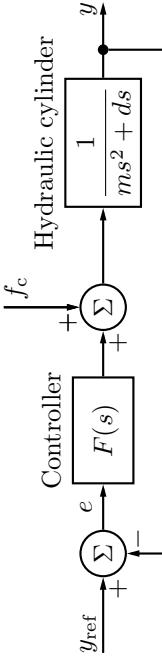

Figure 3.4a
3.4 Figure 3.4a shows the block diagram for a hydraulic servo system in an automatic lathe (Swedish: *svart*). The output signal $y(t)$ represents the position of the lathe tool (Swedish: *svarrstäl*), $y_{ref}(t)$ is the desired position of the lathe tool, m is the mass of the tool slide (Swedish: *verktygsslid*) and the hydraulic piston (Swedish: *kolv*), d is the viscous damping of the tool slide, $F(s)$ is the transfer function for the controller, f_c is the cutting power.